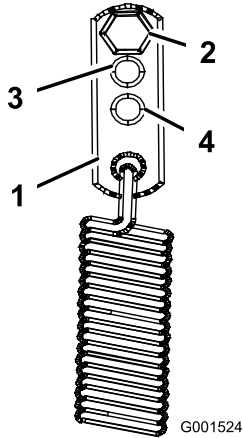

Figure 39
- For a heavier drive setting, relocate the spring anchor links to either the medium or heavy duty positions (Figure 39). The spring anchor links are attached to the upper rear corner of the hydro drive shields on the left and right sides of the machine.